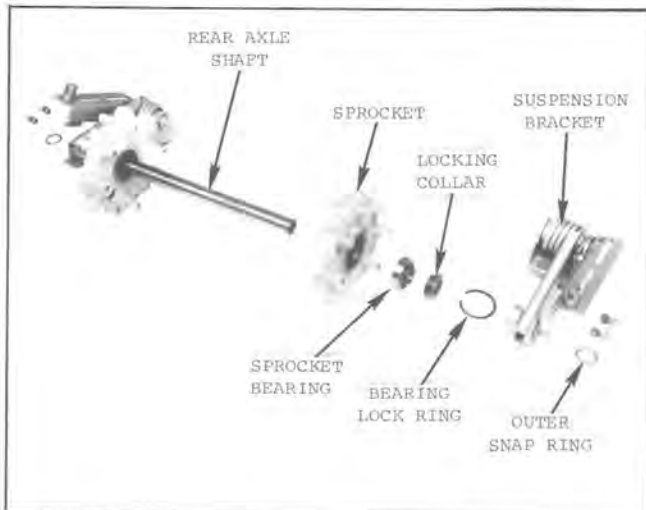

Fig. 79 — Rear Axle Shaft and Related Parts — Identification of Parts
- b. Remove snap ring securing suspension bracket to rear axle shaft, then "work" bracket free of shaft to remove. If desired, the complete rear axle shaft with sprockets and bearings may be removed by raising track free of ground and "working" axle assembly from track. See Fig. 79.
2. Remove the complete rear axle assembly by performing step No. 1, then remove shaft. Disassemble shaft by removing the sprocket bearing locking collars and separate parts as shown in Fig. 79.